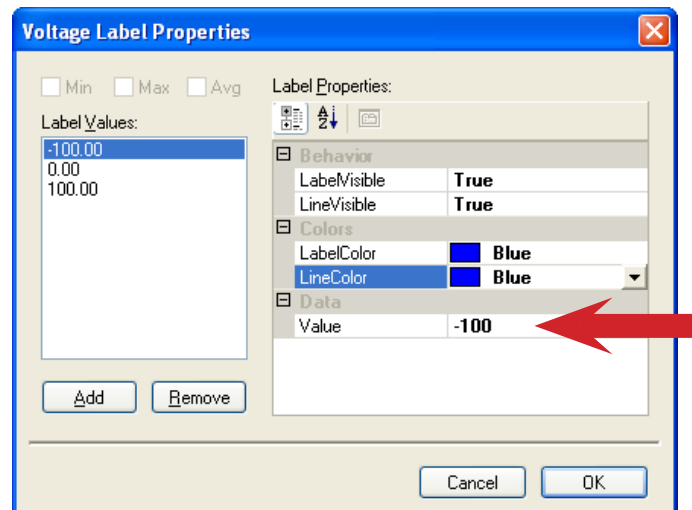
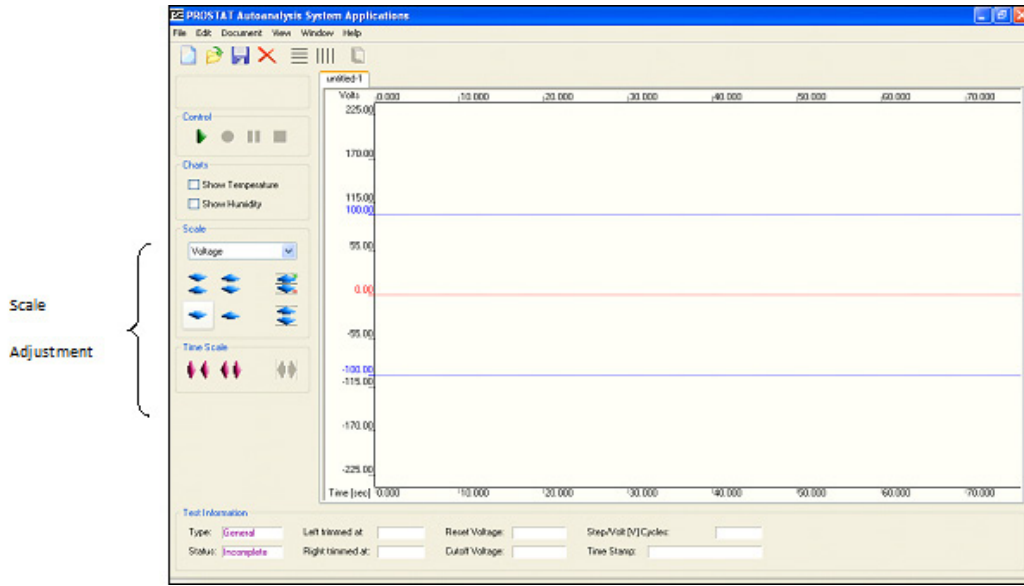

Figure 17: : In the Data section enter Voltage Value where a Chart Line is desired
Figure 18: : New Chart with Red Zero Line and Blue Labels and lines at ±100
9. Repeat for “-100”, i.e., enter “-100” in the Data “Value” section. Open the Color Drop down menu and select Blue. -100 will appear in the “Label Values” window. See Figure 17. Click OK and your plotting chart resembles Figure 18, on the next page.